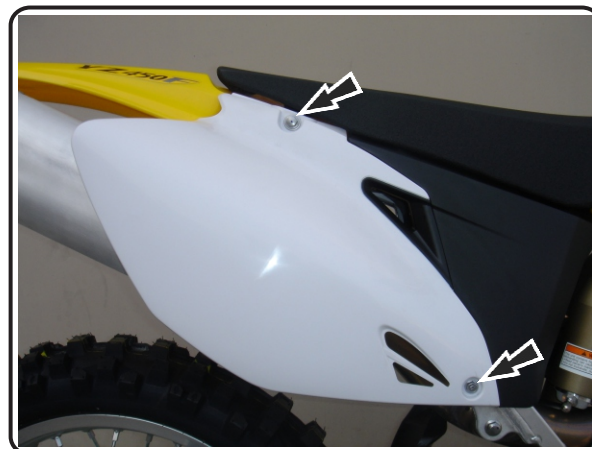

Fig. 1
1. Remove right rear number plate (see Fig. 1 for fastener locations).